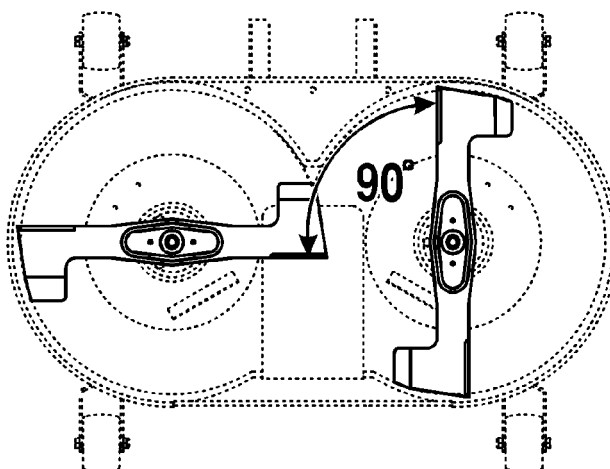

Figure 40
2. Position the blades 90 degrees to each other (Fig. 40).